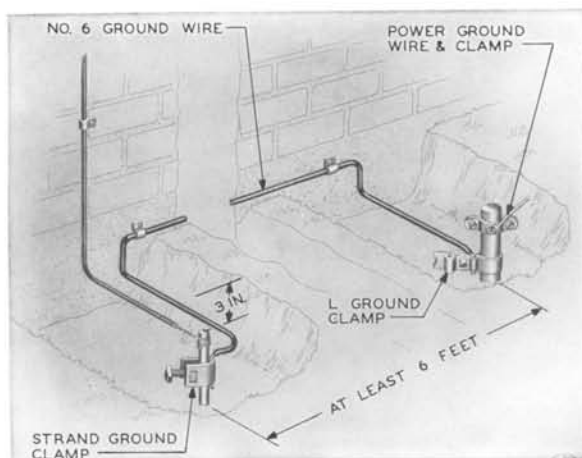

FIG. 6—BONDING TELEPHONE AND POWER SERVICE GROUND RODS
5.05 Where local instructions so specify, bond the telephone ground rod to the power ground rod with No. 6 ground wire as shown in Fig. 6. The B strand ground clamp or approved equivalent may be used at the telephone ground rod, and an L-type ground clamp may be used at the power ground rod.